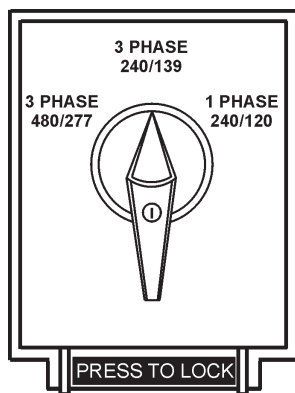

Figure 12. Voltage Change-Over Board
A wide range of voltages are available to supply voltage for many different applications. Voltages are selected by using the **voltage selector** switch (Figure 12). To obtain some of the voltages as listed in Table 7 (see below) will require a fine adjustment using the **voltage regulator (VR) control knob** located on the control panel.
The voltage selector switch (Figure 12) is located above the output terminal panel's Hard Wire Hook-up Panel. It has been provided for ease of voltage selection.